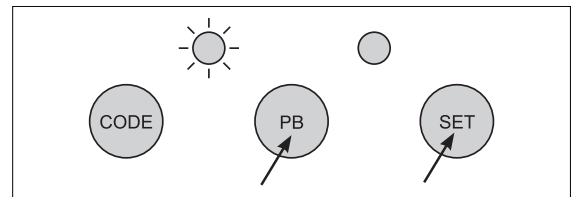

Fig. 20
- 3 Press **PB** to change to ON, the yellow LED will illuminate (Fig. 20).